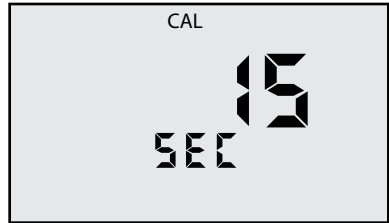

Figure 24
4. Press  to initiate. **CAL** will be displayed along with the “15 SEC” (see Figure 24).